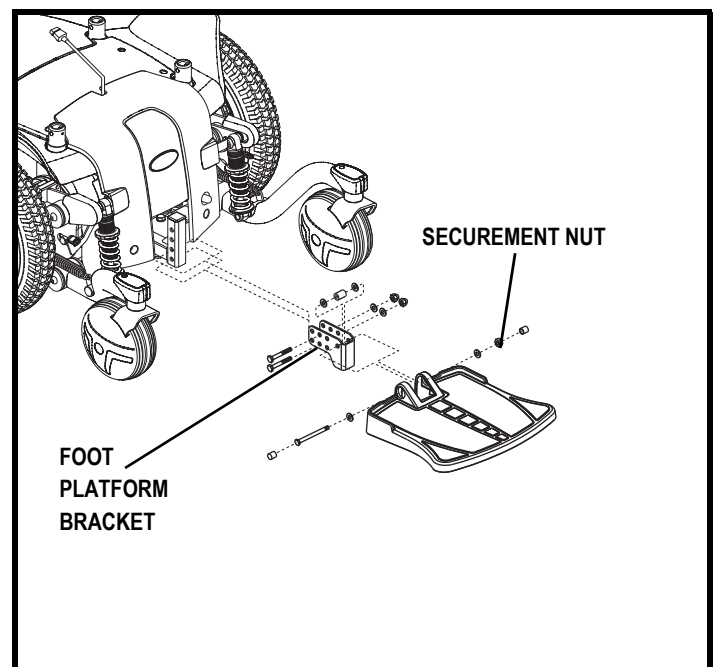

Figure 18. Foot Platform Adjustment
1. Remove the hardware from the foot platform bracket. See figure 18.